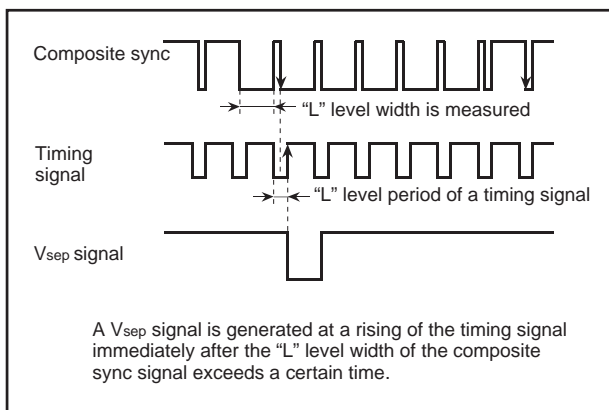

Figure 14.6 Vsep generating timing (method 2)
- Method 2 The "L" level width of the composite sync signal is measured. If this width exceeds a certain time, it is detected whether a falling of the composite sync signal exists or not in the "L" level period of the timing signal immediately after this "L" level. If a falling exists, a Vsep signal is generated in synchronization with the rising of the timing signal (refer to Figure 14.6).
Figure 14.6 shows a Vsep generating timing. The timing signal shown in the figure is generated from the reference clock which the timing generating circuit outputs.